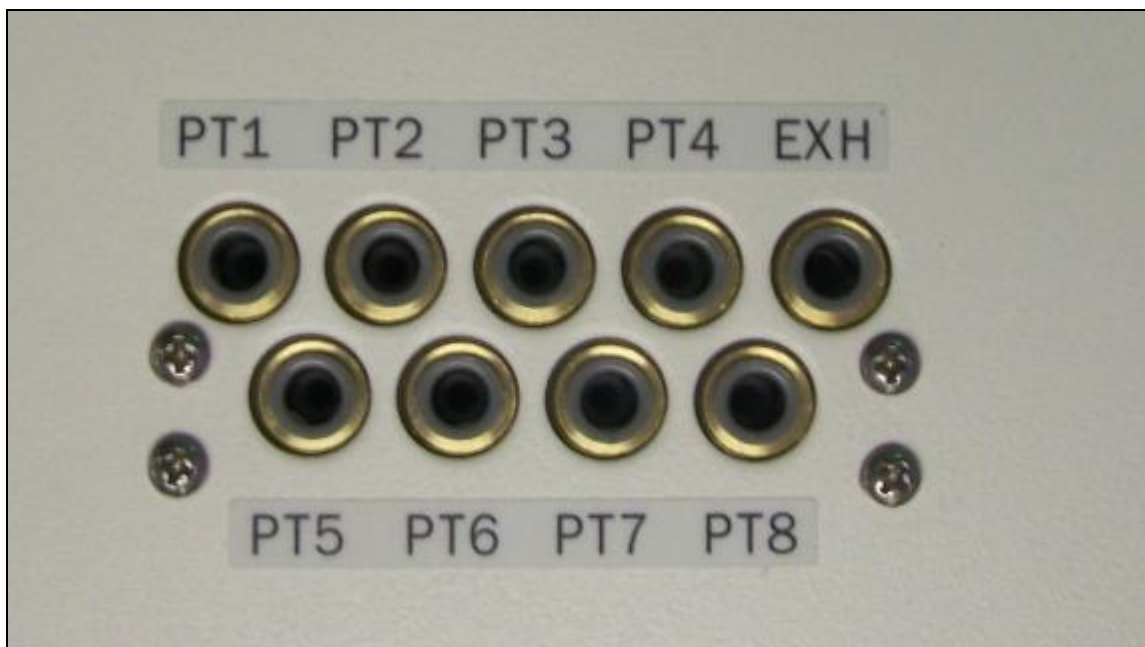

Figure 3.4
- ◆ Remove the four(4) mounting screws shown in figure 3.4 to detach the manifold.